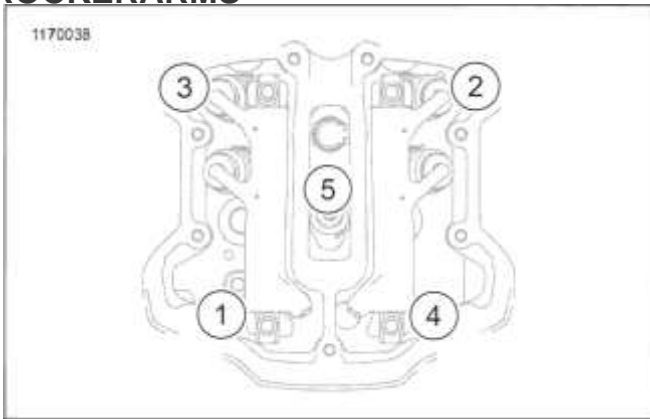

Figure 4-22. Lower Rocker Cover Torque Sequence
4. Figure 4-22. Install screws (3) and stud (4). Tighten in sequence shown.